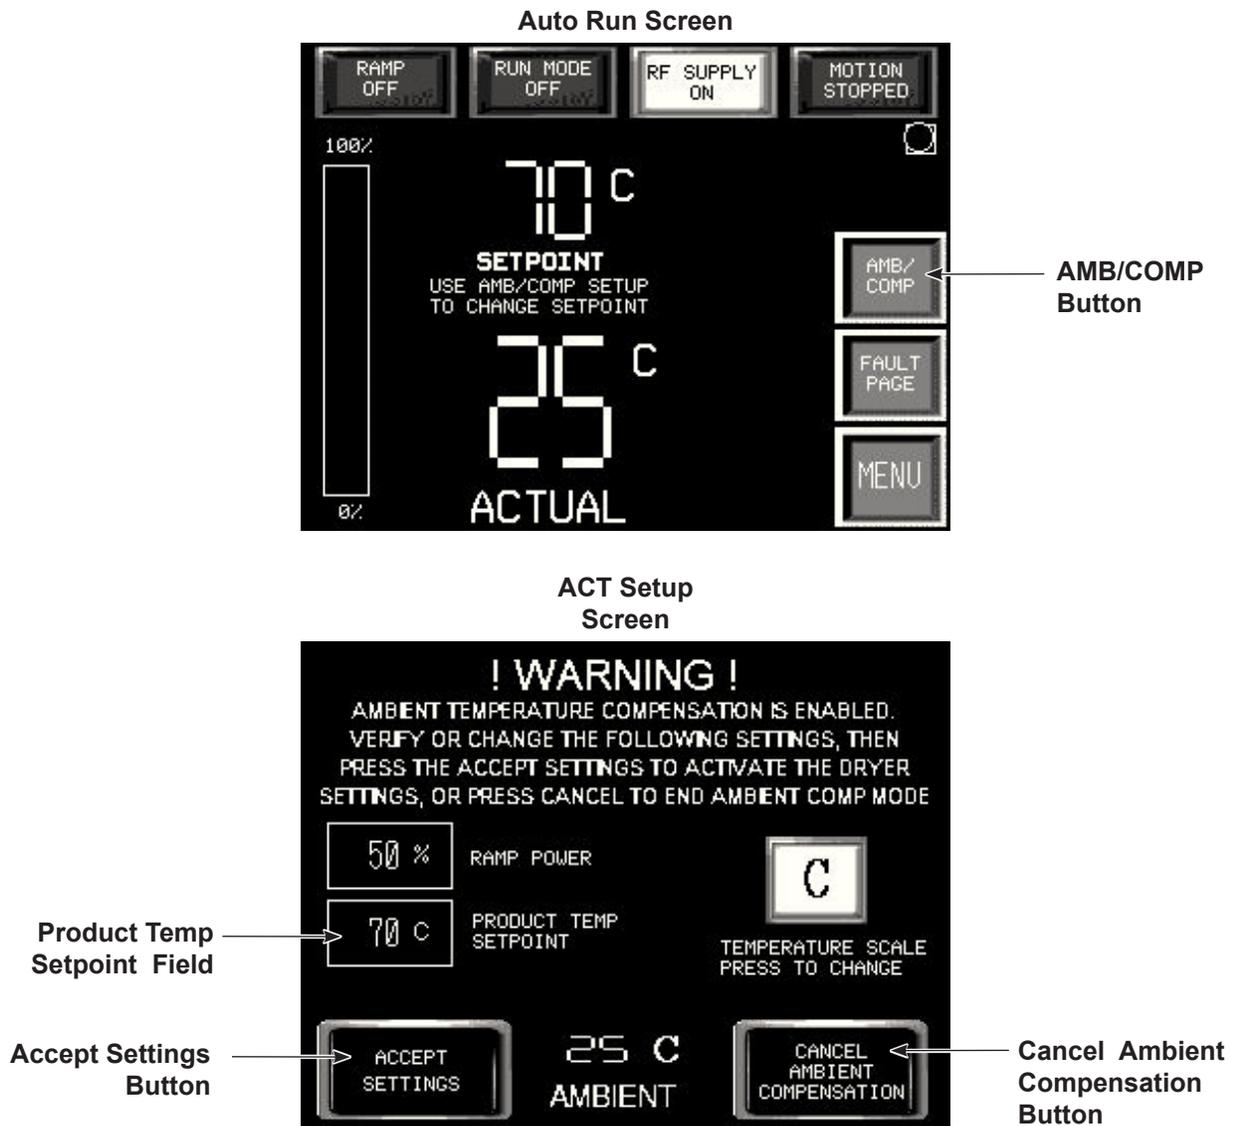

Figure 21 Changing Setpoint Temperature
See Figure 21.
1. See Figure 21. Select the **AMB/COMP** button from the **Auto Run** screen.
2. See Figure 21. From the **ATC Setup** screen, select **Cancel Ambient Compensation** button.